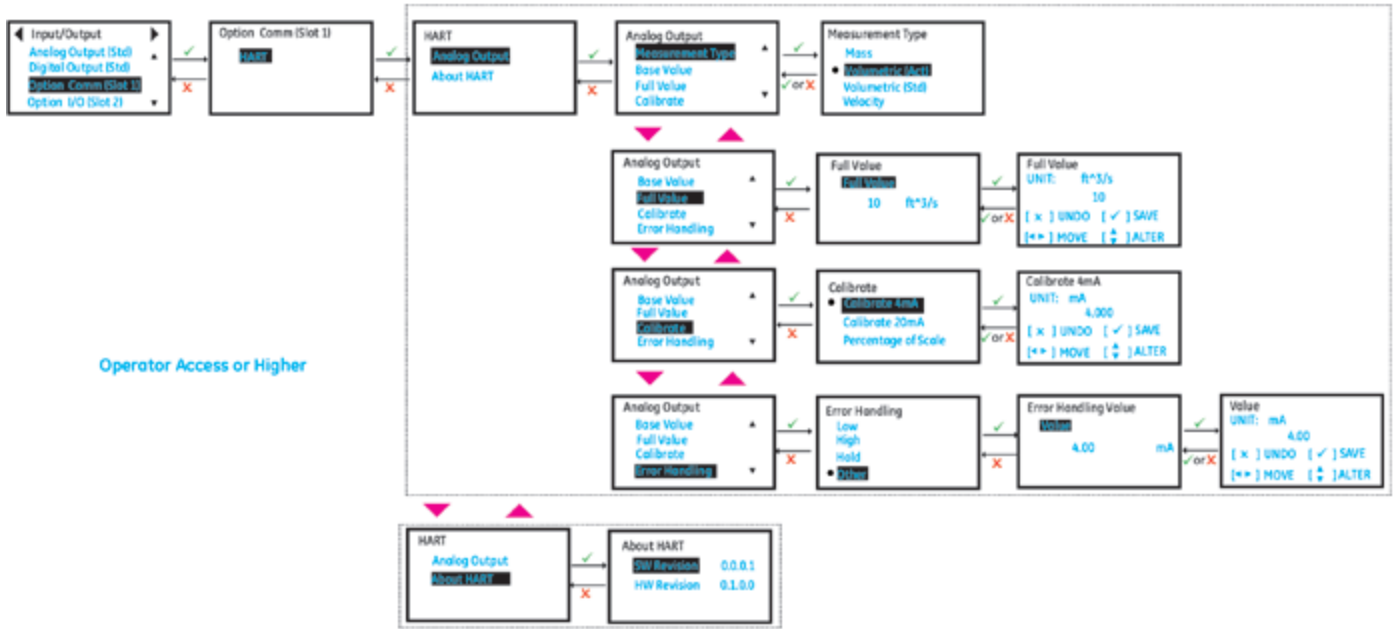

Figure 61: Option slot-1 configured as HART
2. You can set Analog Output with HART option. Refer to Figure 61 and Figure 57.